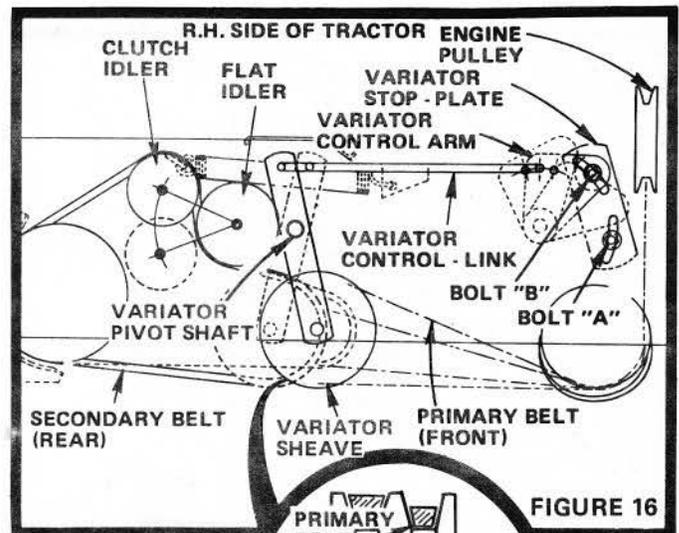

FIGURE 16
- With engine running, transmission in neutral, place Vari-drive Control Lever in "FAST" position (Fig. 11) and check if Secondary Belt (Fig. 16 - Inset) rides flush with outside of Variator Sheave. (DO NOT PUSH DOWN ON CLUTCH PEDAL).
- Loosen Adjustment Nuts "A" and "B" on Varidrive Stop Plate (Fig. 16).
- Slowly move Varidrive Control Lever (Fig. 11) forward ("FAST" position) until Secondary Belt is riding flush with outside of Variator Sheave (Fig. 16 - Inset). (DO NOT PUSH DOWN ON CLUTCH PEDAL).
- Rotate Variator Stop Plate upward until Adjustment Stop Bolt "B" (Fig. 16) hits bottom of Stop Plate Slot.
- Polyfoam Seal at Variator Pivot Shaft (Fig. 16) (saturate with oil).
- Polyfoam Seal (behind Flat Idler) at Clutch Idler Pivot Arm (saturate with oil) (Fig. 16).